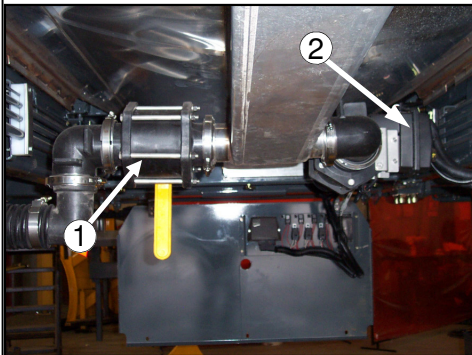
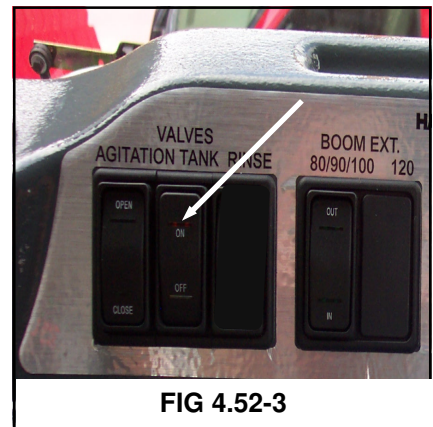

FIG 4.52-2
FIG 4.52-3
SOLUTION TANK VALVE– The solution tank valve (fig. 4.52-2, item 1) controls the amount of solution coming out of the tank. The valve is controlled from inside the cab with the TANK VALVE switch (fig. 4.52-3) located on the right hand console.
TANK SUMP VALVE– The tank sump valve (fig. 4.52-2, item 2) is a ball type valve that has to be turned on and off manually.